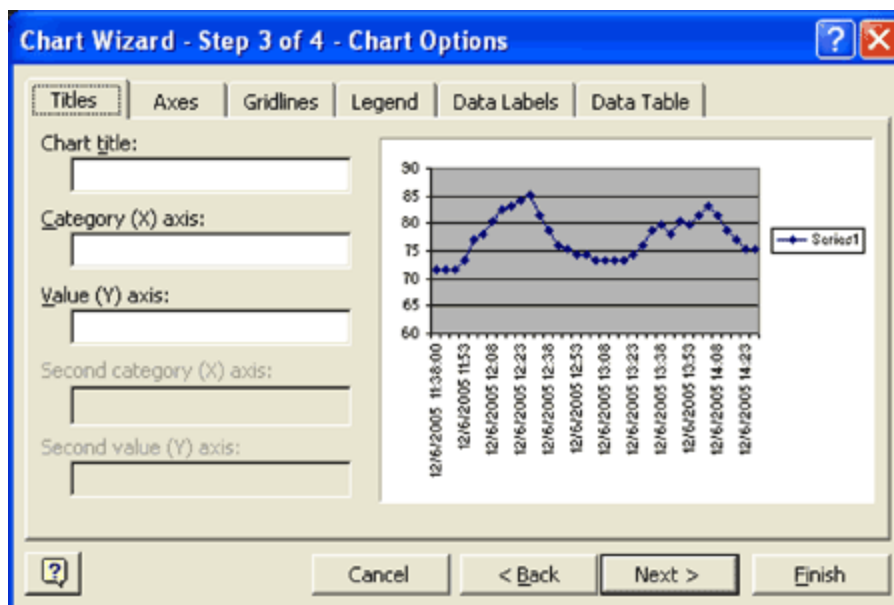

Figure 14. Now you decide what title and labels to add to your chart.
6. Add chart options. In this example we will add titles and labels(Figure 14).